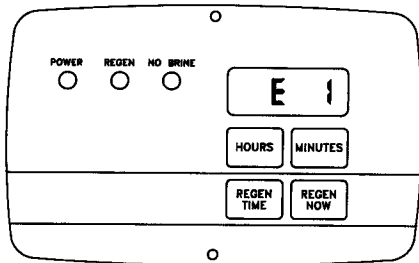
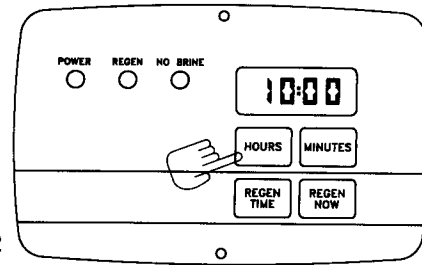

Figure 1
Figure 2
If the ground from the electrical panel or breaker box to the water meter or underground copper pipe is tied to the copper water lines and these lines are cut during installation of the Noryl bypass valve and/or poly pipe, an approved grounding strap must be used between the two lines that have been cut in order to maintain continuity. The length of the grounding strap will depend upon the number of units being installed and/or the amount of copper pipe being replaced with poly. See Figure 1.
In all cases where metal pipe was originally used and is later interrupted by poly pipe or the Noryl bypass valve as in Figure 1 or by physical separation as in Figure 2, to maintain proper metallic pipe bonding, an approved ground clamp c/w not less than #6 copper conductor must be used for continuity.
- Plug the 24 volt transformer into a live 120 VAC 60 Hz outlet. The "power" light and display will come on. Wait 30 seconds, then set the hours by pressing and holding the "hours" keypad, then set the minutes by pressing and holding the "minutes" keypad (see detailed instructions on page 3, Figure 2). If you inadvertently press the "hours" keypad within 15 seconds, the unit will go into a diagnostic mode indicated by the word "OFF" being displayed. To exit the diagnostic mode and reset the unit, unplug the unit from the electrical outlet and plug it back in. Wait 30 seconds and set the hours and minutes as described above.
Display Codes (Figure 1)
(Figure 2)